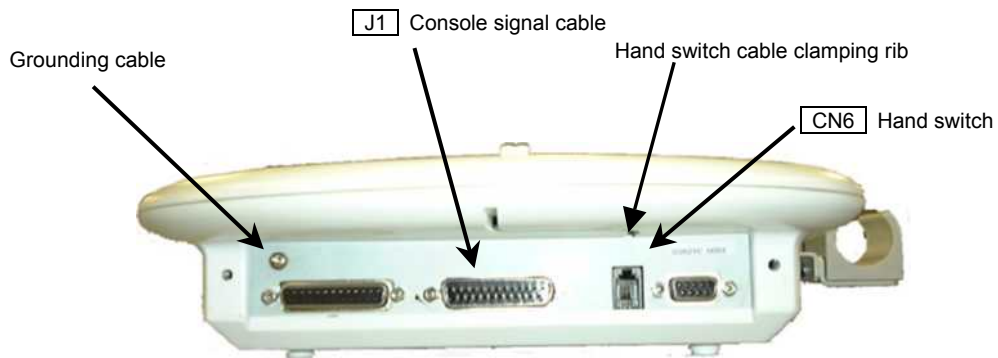

Fig. 5.4.13 GSC-2002S(Z) Cable Connection Positions
5.4.3.6 Wiring the GSC-2002S(Z) Control Console
Pull the wires to connect to the GSC-2002S(Z) through the bottom of the console. The cable connection positions are shown in Fig. 5.4.13. The console signal cable ground connection in the control cabinet is shown in Fig. 5.4.14.